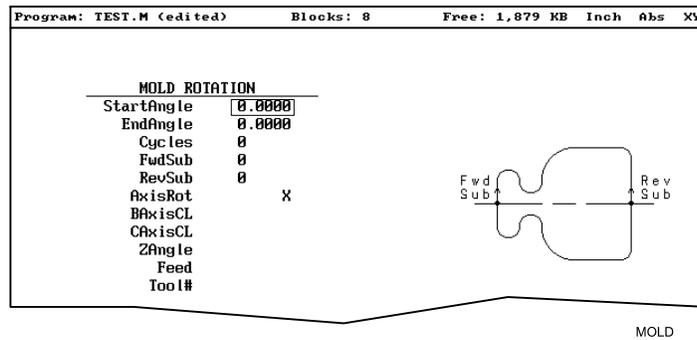

Figure 5-39, MOLD ROTATION Graphic Menu
2. Highlight **Mold Rotation**, and press **ENTER** to display the **MOLD ROTATION** Graphic Menu. Refer to **Figure 5-39**.